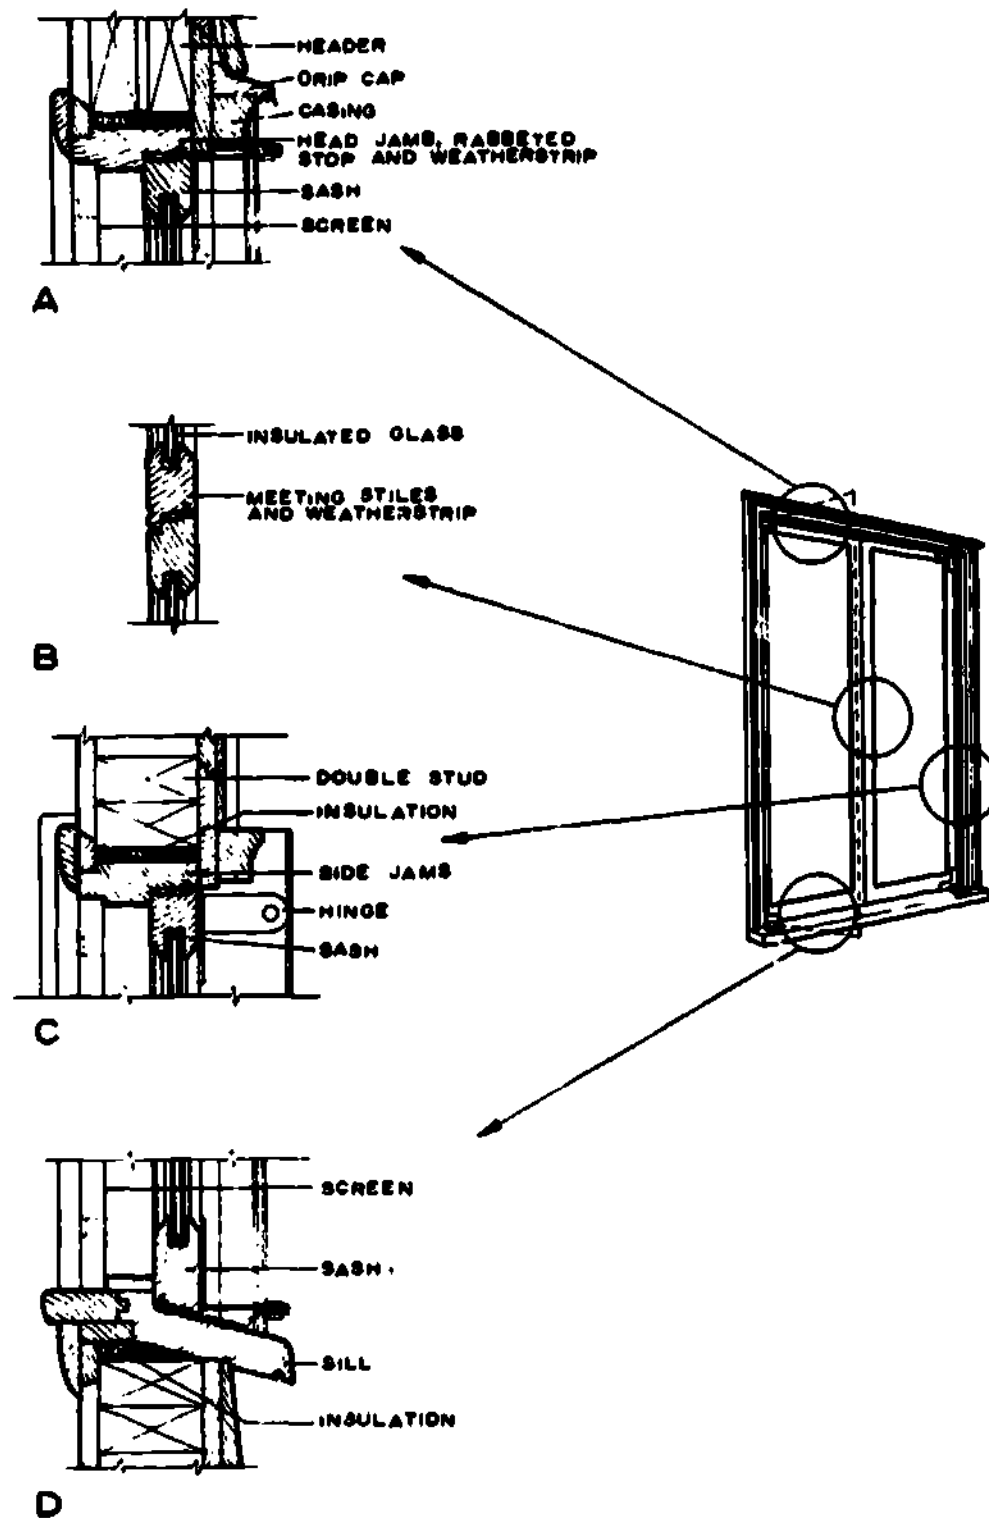

Fig 3-29. Casement window detail.
Details shown on casement windows. Casement windows consist of side-hinged sash, usually designed to swing outward. Figure 3-29 shows an outswinging casement window with four (4) detail views. View A is a sectional view of the head. View B is a sectional view (plan view, looking down) of the meeting rails. A sectional view of side jamb (plan view, looking down), is shown in view C. View D shows a sectional view of the sill.